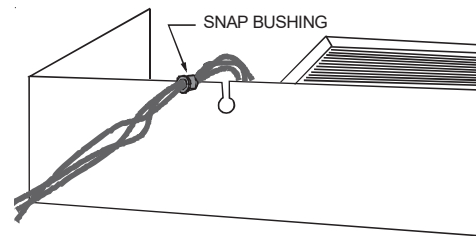

Figure 11
10. Position the wires from the freeze thermostat found on the left side of the hydronic top so the wires slide through the slot opening in the hydronic top. Place all wires into the supplied snap bushing (Figure 11).